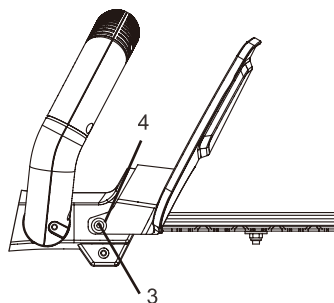

FIG. 7b
2. Thread two self-tapping screw (3) through the hand guard and into the matching holes (4) in each side of the blade mount Fig 7b).